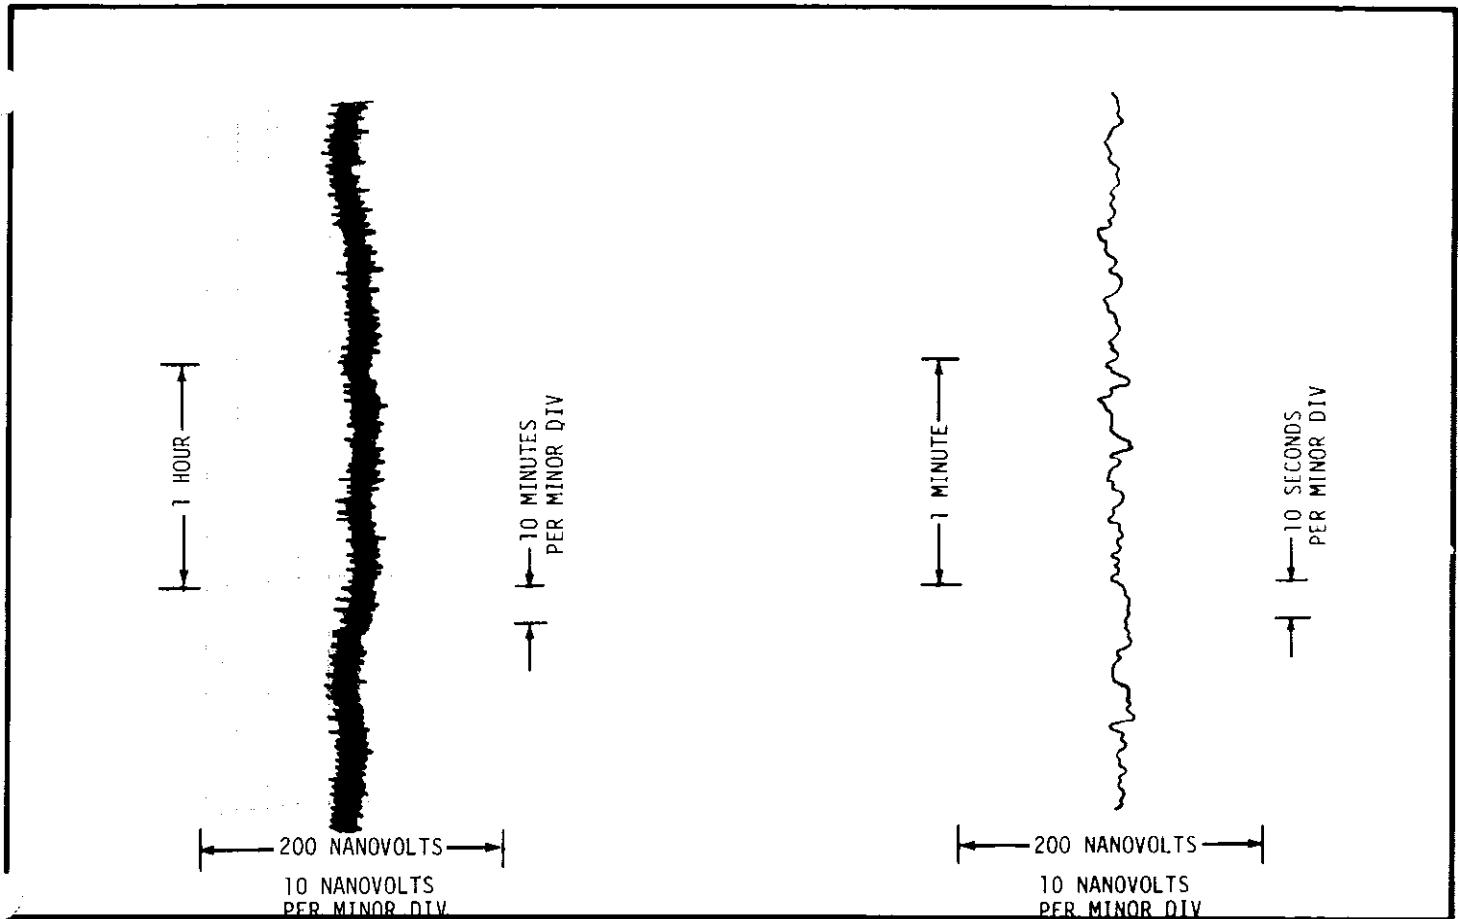

FIGURE 44a,b. Typical Drift and Noise Recordings.
4. Typical long term drift is shown in Figure 44a. This data was recorded on an Esterline-Angus chart recorder (Model 602) by monitoring the Model 180 Analog Output. Measurement was made in a laboratory with temperature controlled to $\pm 1^\circ\text{C}$ with very slow temperature variations.